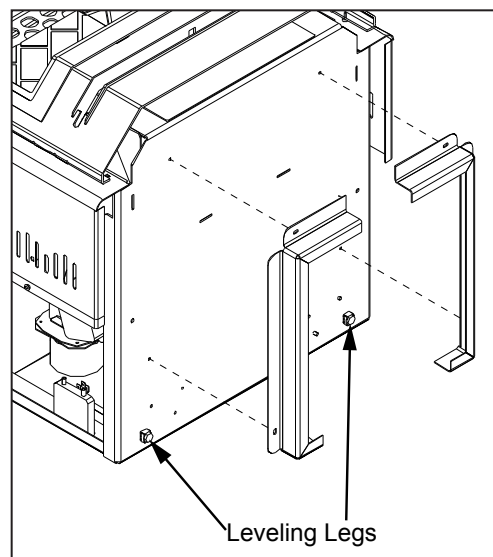

Figure 8: Installing Pedestal.
There are two parts to the Olympian insert pedestal and they can be found inside the hopper. Place unit on its back. Two (2) hex head screws are used on each side of the pedestal (refer to Figure 8). Using a  $\frac{5}{16}$ " wrench or socket attach the pedestal to the bottom of the unit.